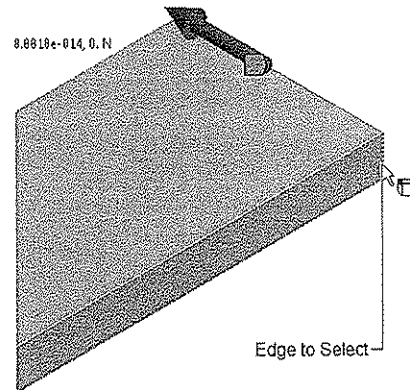

Figure 9-15 Selecting the edge to specify the direction for applying the load
14. Select the **Direction** selection box to display the **Apply** and **Cancel** buttons. Next, select the edge of the model, as shown in Figure 9-15.